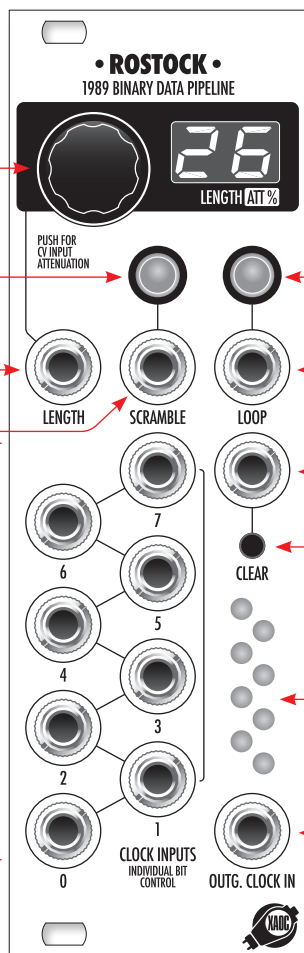

fig. 1
The front panel of Rostock is shown in fig. 1. Contrary to many other modules in the Leibniz series, Rostock does not offer data input or data output jacks. Hence it relies entirely on the data connections at the back of the module. It features a bank of eight clock inputs ①,